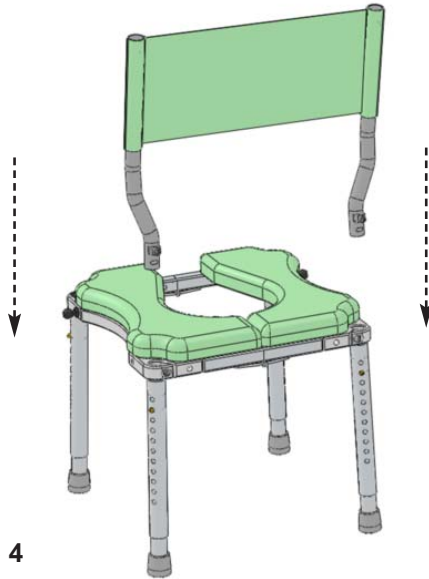
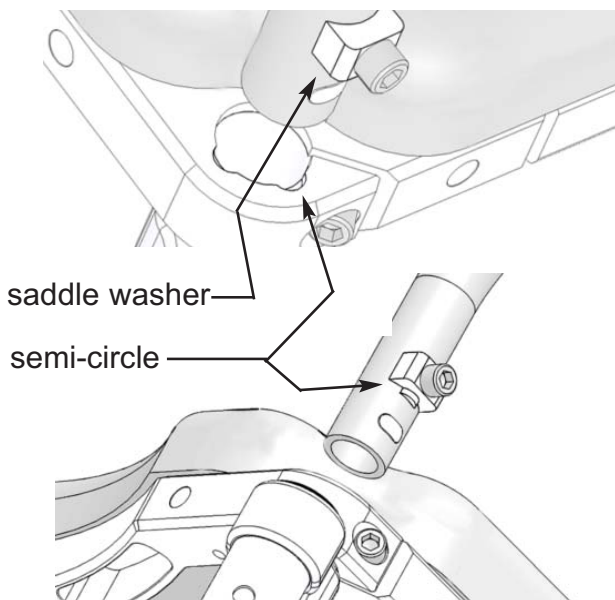

Figure 4
Figure 6
**E** Turn the chair right side up and install the backrest assembly. Slide the two backposts into the back of the seat frame and then install the cloth back. Next tighten the two socket head cap screws using the 1/4" Allen wrench (Refer to Figure 4 & 5). If desired, the saddle washers can be turned upside down and mated with the corresponding semi-circle located on the frame. This can help prevent the back posts from rotating while in use (Refer to Figure 6).